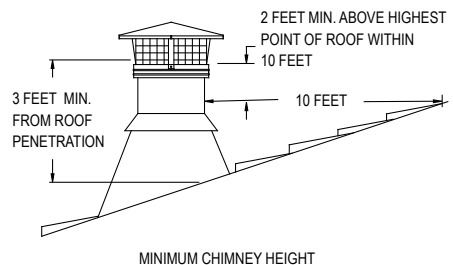
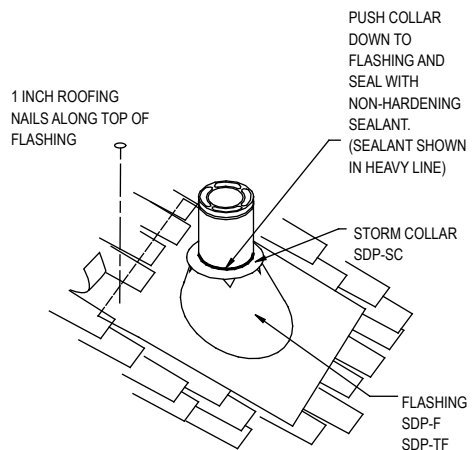
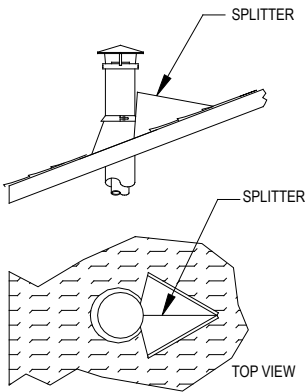

Figure 1
Figure 14
Figure 16
The National Fire Protection Association Standard #211 states: "Chimneys shall extend at least three feet above the highest point where it passes through the roof of a building, and at least two feet higher than any portion of a building within ten feet." (**Figure 1**).
9. Attach Flashing: In new construction, assemble the Chimney Sections to a point above the roof, then slip the Flashing over the chimney. On an existing roof, center and install the Flashing before extending the chimney above the roof. Allow space to permit sliding the next Chimney Section up through the Flashing. Always insure the chimney remains vertical, and that at least a 2-inch clearance to combustible materials is maintained all around. Install the upper edge of the Flashing under the roofing. Nail to the roof along the upper edge and the upper half on each side with 1-inch roofing nails. Do not nail the lower edge of the Flashing, or the lower half of the sides. (**Figure 14**). Seal all nail heads with a non-hardening waterproof sealant. On flat or tarred and graveled roofs, nail and seal the Flat Roof Flashing to the roof on all sides with roofing compound. Do not put screws through the Flashing into the Chimney Pipe.
chimney above the Flashing, and also along the vertical seam of the chimney pipe, which is exposed to the weather. (Figures 14 and 15). Slide the Storm Collar down over the chimney to the top of the Flashing. Tighten and seal the Storm Collar against the sealant. After installing sufficient Chimney Sections to meet the height requirement, (Figure 1), snap the Chimney Cap onto the top of the chimney. The Chimney Cap can be removed for chimney cleaning as described in the Chimney Maintenance section of the instructions. Use an Extended Roof Bracket if the chimney extends more than 4 feet above the roof. (Figures 18, and 19) in the Extended Roof Bracket section. If you are located in heavy snow country, a “splitter” should be fabricated from heavy gauge sheet metal, and installed. (Figure 16). This will route the snow around the chimney, and protect it. This item is not furnished by DuraVent.